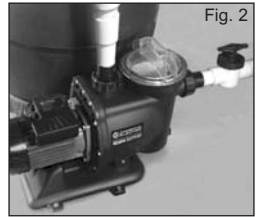

Fig. 2
**NOTE:** Make sure the transparent filter cover (1) is accessible so it can be removed (along with the filter basket (13) for cleaning (Fig. 2).